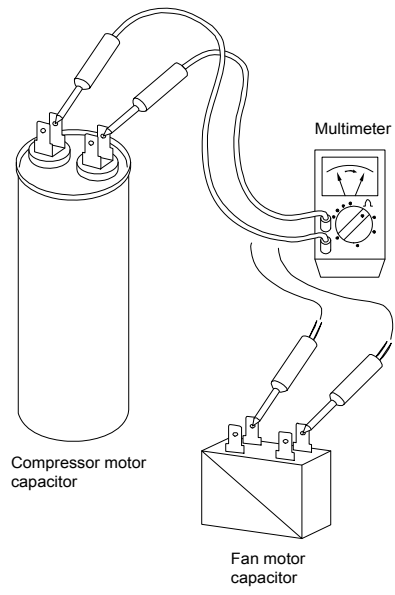

Fig.3
- 1) Remove the lead wires from the capacitor terminals, and then place a probe on the capacitor terminals as shown in Fig.3.